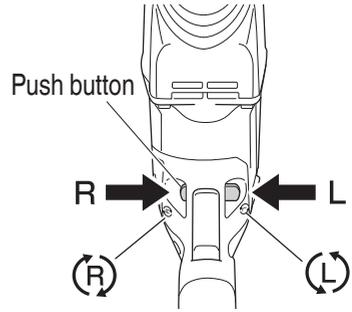

Fig. 5
7. Confirm the direction of bit rotation (**Fig. 5**)